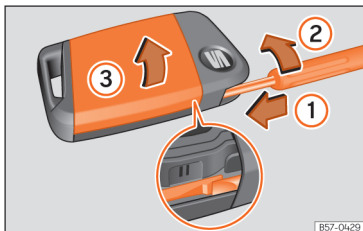

Fig. 49 Vehicle key: opening the battery compartment.
- Insert a flat blade screwdriver into the vehicle key, through the outer guide of the emergency key, approx. 1 cm in the direction of the arrow >>> Fig. 49 ①.
- Turn the screwdriver clockwise until the cover opens >>> Fig. 49 ②
- Open the cover in the direction indicated by the arrow >>> Fig. 49 ③ and remove it >>> ④.